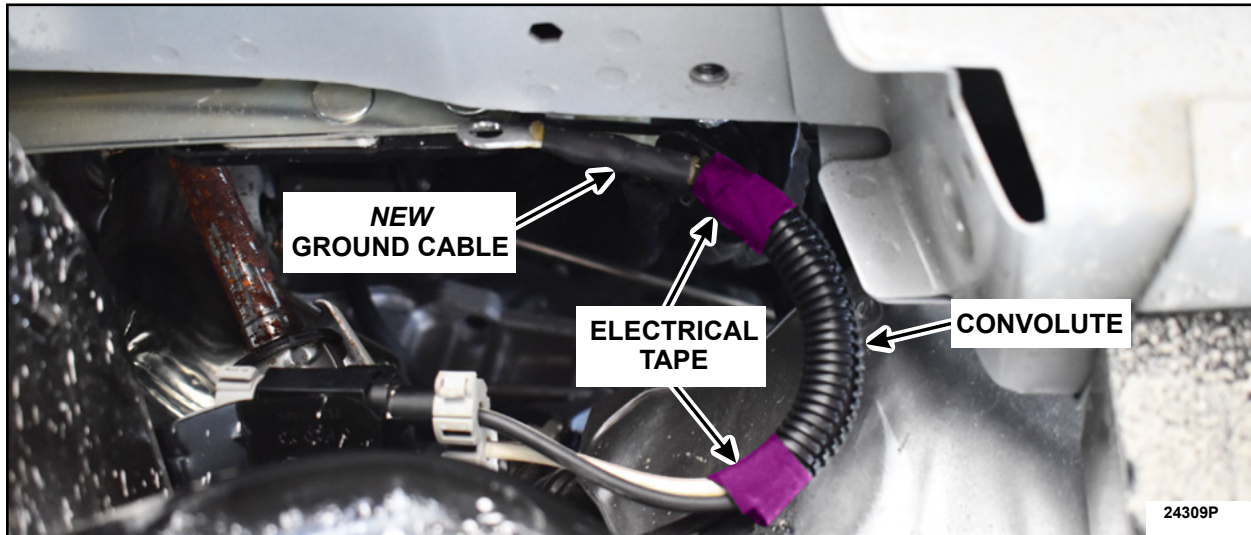

FIGURE 14
17. Install the convolute and secure each end using electrical tape. See Figure 14.